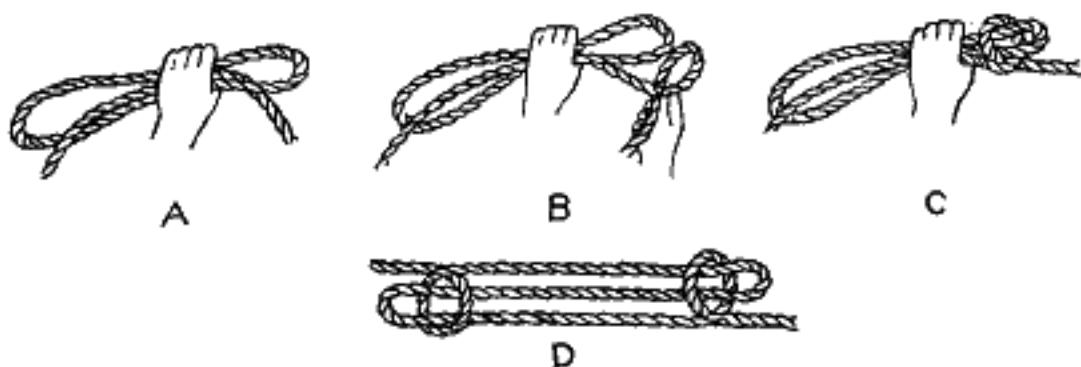

FIG. 344.—The sheepshank.
**404.** The sheepshank (Fig. 344) is used for shortening the rope. It is made by gathering up the rope, forming two bights of the desired length. The standing parts are then looped around the end of each bight, using half hitches.